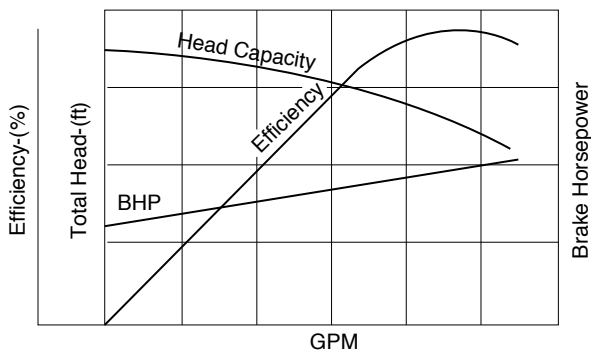

FIGURE 47. Efficiency-Capacity Curve
- Using the above formula, the efficiency at which the pump is operating at any given capacity can be determined. The efficiency points are then plotted on the graph and the curve is generated (Figure 47).